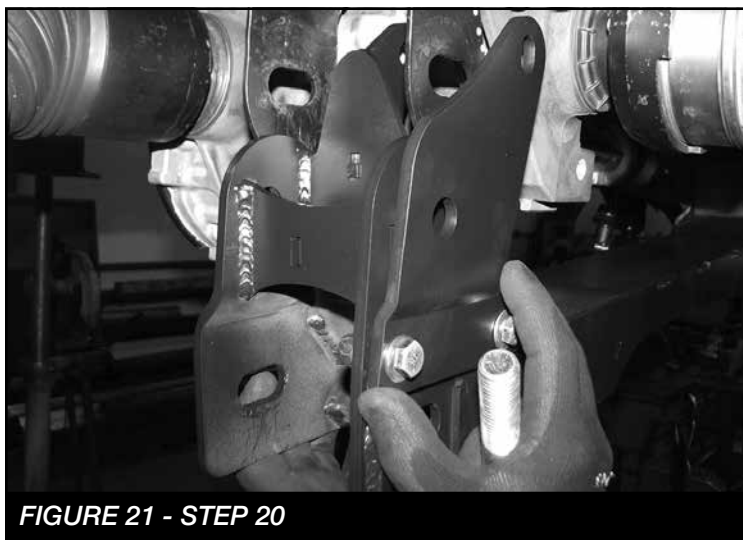

**FIGURE 19 - STEP 19**
19. Locate the factory front differential and install into the Fabtech upper differential mounts using two 1/2"-13 x 4" hex cap bolts, washers and lock nuts. Leave all hardware loose in preparation of the installation of the remaining differential mounts. **SEE FIGURE 19**